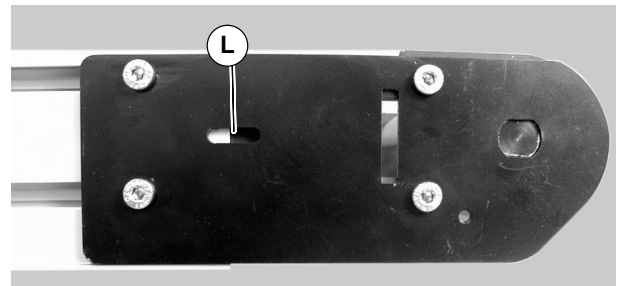

Figure 30
15. Extend head plate assembly until proper tension in the belt is achieved. If proper tensioning can not be obtained before the belt life indicator is all black (L of Figure 30) the belt must be replaced.